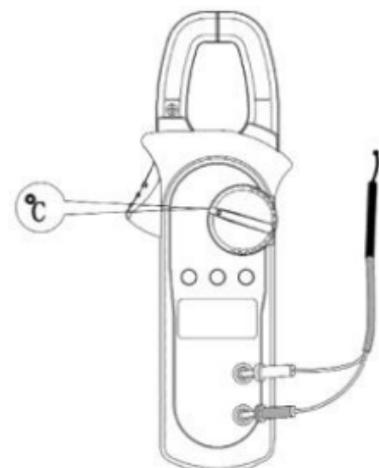

Figure 10
8. Temperature measurement ($^{\circ}\text{C}$) (shown in Figure 10)